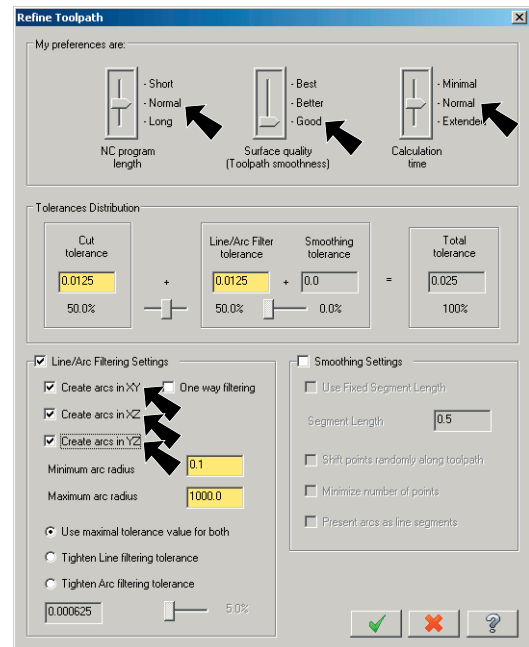

Fig. 33
Step 16. Set the 3 sliders to: **Fig. 33**
Step 17. Click to place check in all Create Arcs checkboxes, **Fig. 33.**